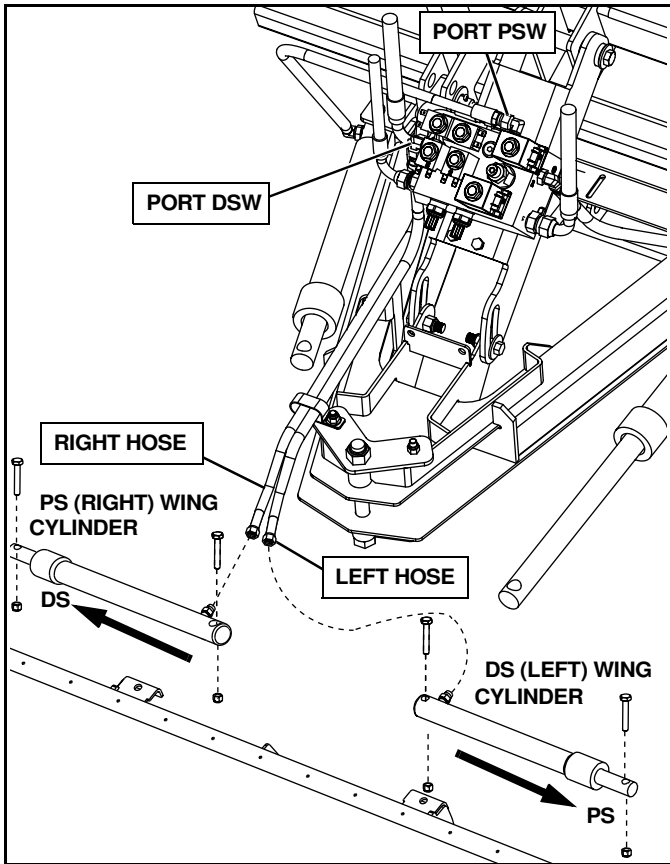

Figure 2-11
5. 26R SKD ONLY: Connect the hydraulic hose from port marked PSW on the valve block to the right (passenger side) wing cylinder. Connect the hose from port marked DSW on the valve block to the left (driver side) wing cylinder (See Figure 2-11)